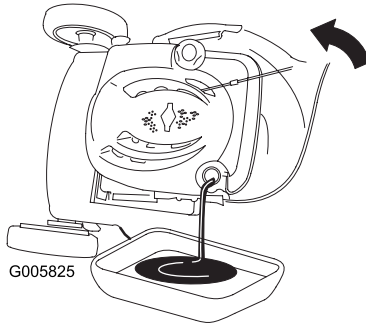

Figure 24
3. Tip the mower onto its side with the air filter up to drain the used oil out through the oil fill tube (Figure 24).